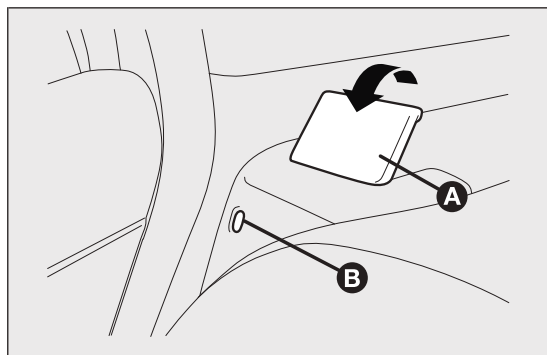

fig. 100
**IMPORTANT** The backrest is correctly secured when the red band B fig. 100 to the side of backrest folding handle A disappears. This red band indicates that the backrest is not secured.
Make sure that the backrest is correctly secured on both sides (red bands B fig. 100 not visible) to prevent it from moving forward in the event of sharp braking, causing injuries to passengers.